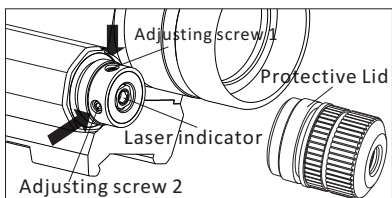

Fig7
INFINITI HS401 has an outer visible laser indicator on right side of the housing, which is for quick aiming indication in short distance (as shown in Fig 7).
- ① Left turning to open the protective lid.
- ② It can be achieved through the adjusting screw 1 and 2 which are located at exit by the allen wrench (see fig 7).